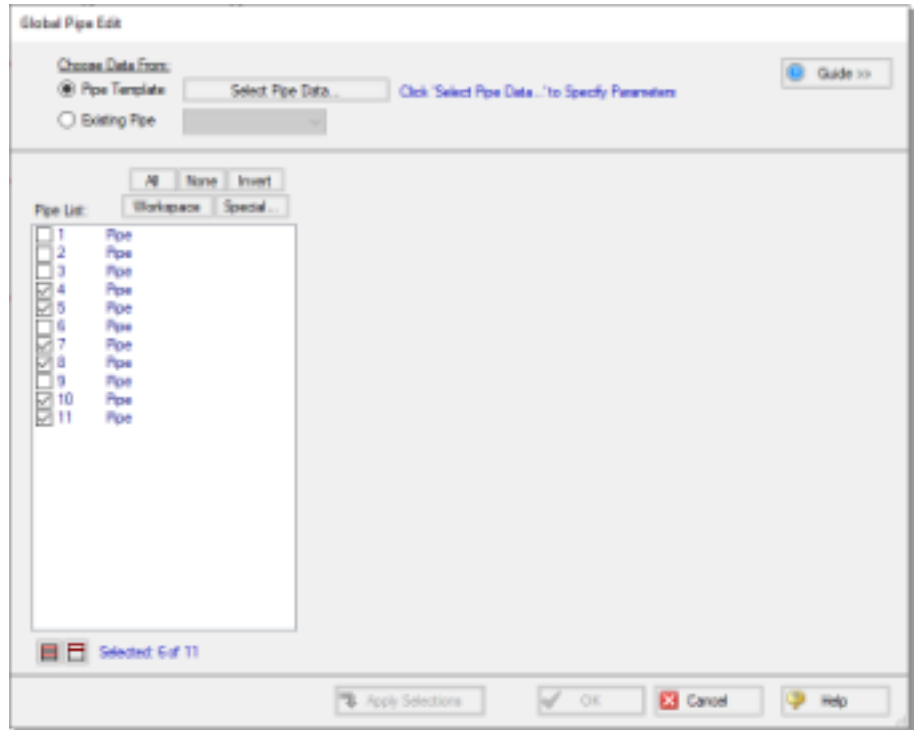

Figure 3.2 Global Pipe Edit window
- **Select Pipes P4, P5, P7, P8, P10, and P11** from the list of pipes as shown in Figure 3.2.